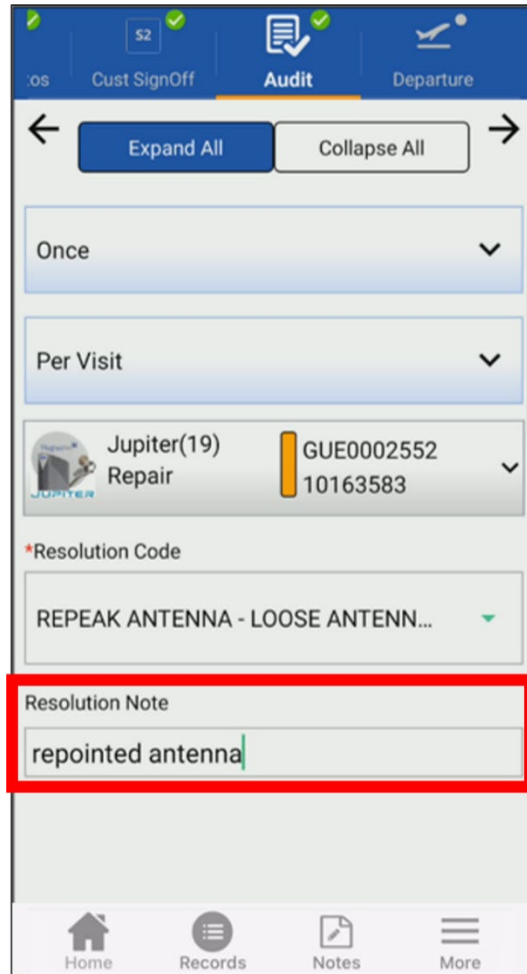

Figure 107: Resolution Note
3. Enter any additional explanation in the Resolution Note textbox (Figure 107).